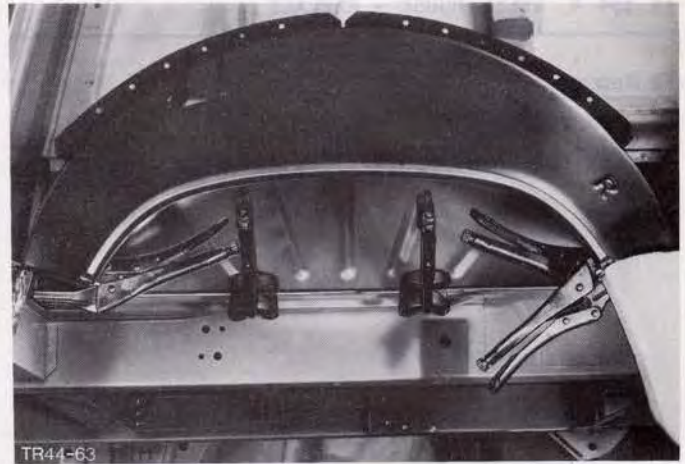

Fig.180. Secure wheel house with clamps.
6. Position new wheel house and secure with clamps, Fig.180.